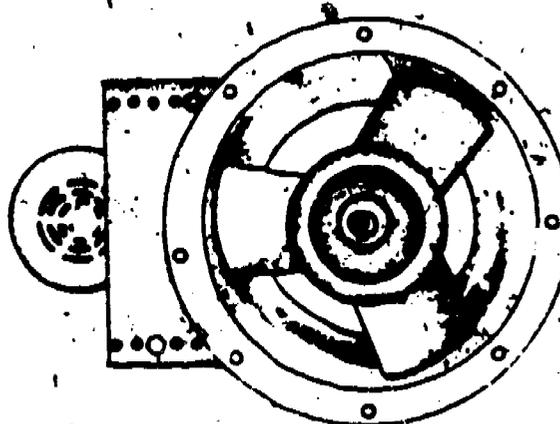

Figure 2. Tube-Axial Fan
**Tube-Axial Fans.** They are used for heavier duty air movement. They are built for mounting in ductwork whereas the propeller type is mounted in a wall. Since the air will move at a higher velocity, the increase of the spiral movement will incur greater duct pressure losses, and will increase the amount of noise in a duct system. For this reason they are normally used for industrial applications where noise is a minor consideration, and space is of no concern. The tube-axial fans can withstand pressures up to 2 1/2 to 3" water pressure. They are also direct drive or belt driven. The propeller fans of all types have the added characteristic of using most power at maximum air delivery. See figure 2: